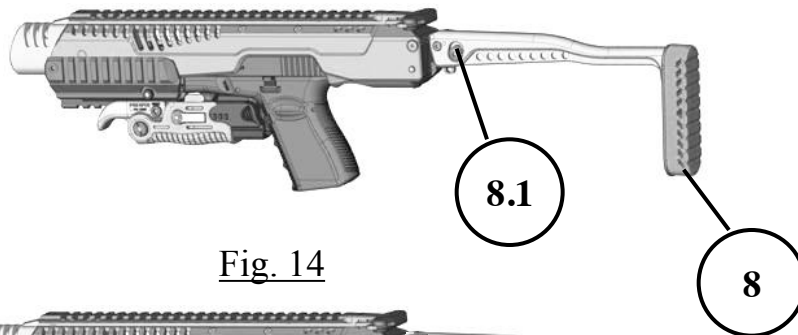

Fig. 14
Step 1. Loosen the Buttstock Screw (8.1) (Fig. 14).